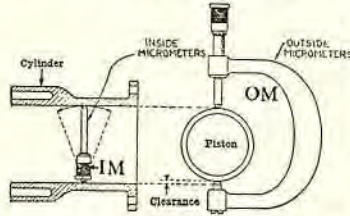

Fig. 7
Method of measuring piston clearance: Place the inside micrometer caliper (IM) in the cylinder, as indicated in Fig. 7, and determine the inside diameter of the cylinder (see also page 703).
Then with the outside micrometer (OM), measure the inside micrometer (IM) as shown in Fig. 9. The reading in Fig. 8 subtracted from the reading in Fig. 9 is the clearance. A quicker, but less accurate, method would be to subtract the measurement found in Fig. 8 from the measurement noted in Fig. 7. See also Fig. 11.
More accurate methods to determine if cylinder bores are out-of-round or tapered are by the use of an inside micrometer, Fig. 7, or a cylinder dial gauge,¹ Fig. 11.